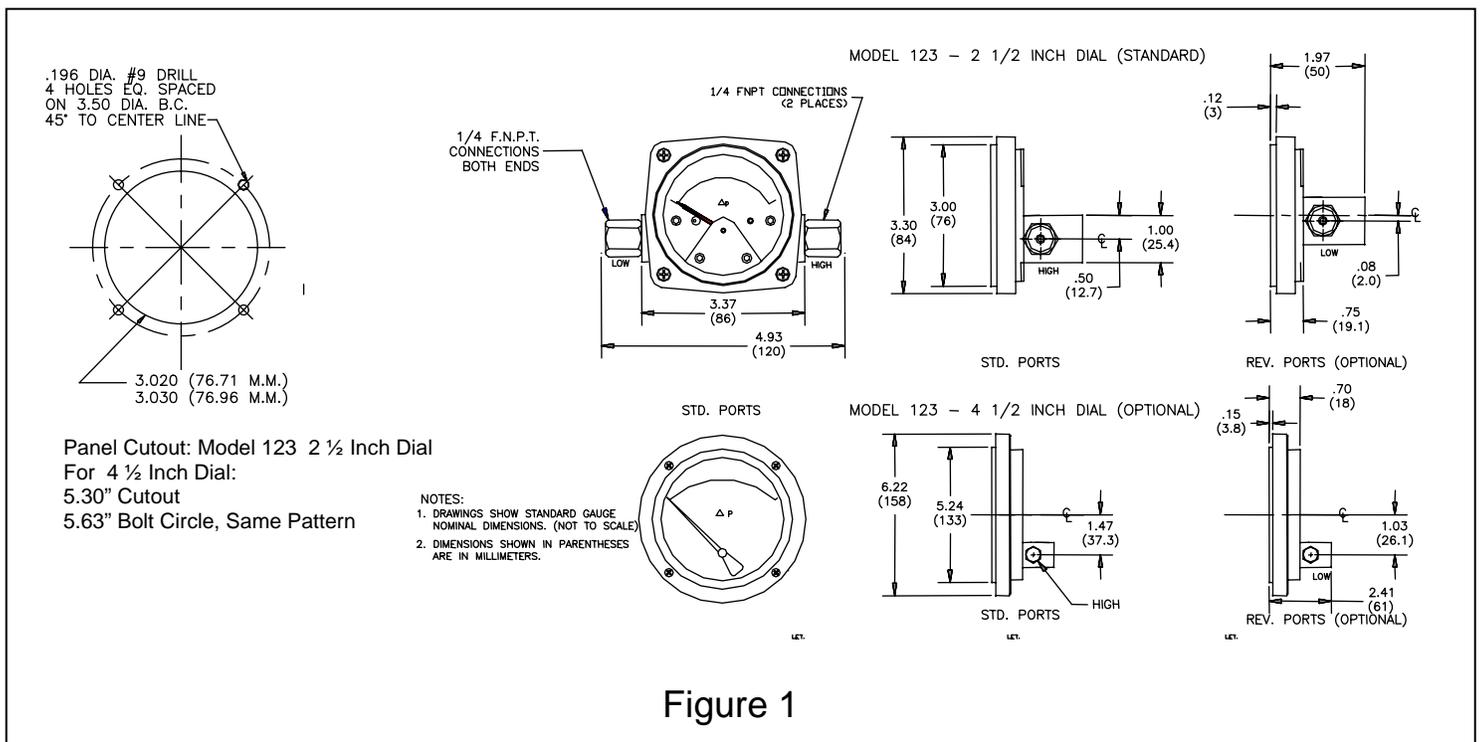

Figure 1
Gauges with 2-1/2" dials can only be mounted through the **rear** of the panel. Make the proper panel cutout as indicated in (Fig .1). Remove the (4) bezel screws. Insert the gauge front through the rear of the panel and reinstall the bezel screws through the front of the panel and into the gauge bezel. Tighten the screws securely, alternating in a **diagonal** pattern.
Gauges with 4-1/2" dial should be mounted from the **front** of the panel. Make the cutout as indicated in (Fig. 1). Insert the (4) panel mounting studs, finger tight, into the metal inserts located in the rear of the bezel. Insert the gauge through the panel, aligning the panel mounting studs with the holes in the panel. Install the (4) #8-32 nuts onto the studs and tighten securely.